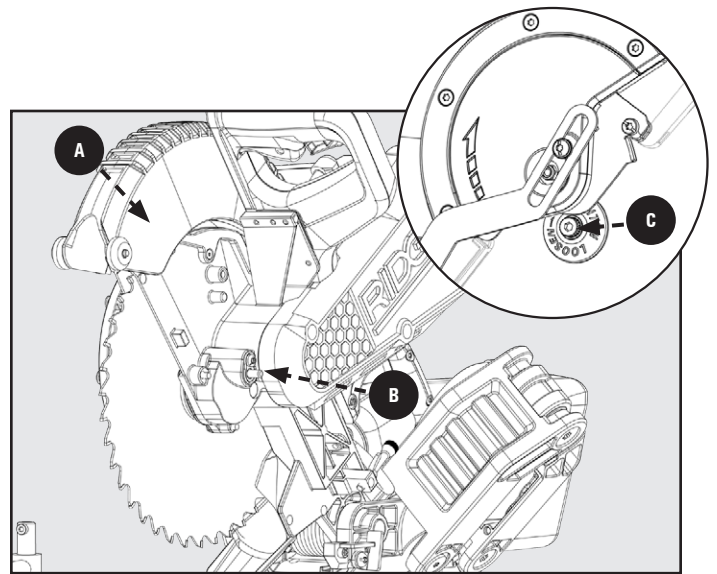

Figure 8
See Figure 8.
⚠ WARNING: Make sure the Spindle Lock Button (B), see Figure 8, is not engaged before reconnecting Saw to power source. **NEVER** engage Spindle Lock button when Blade is rotating.